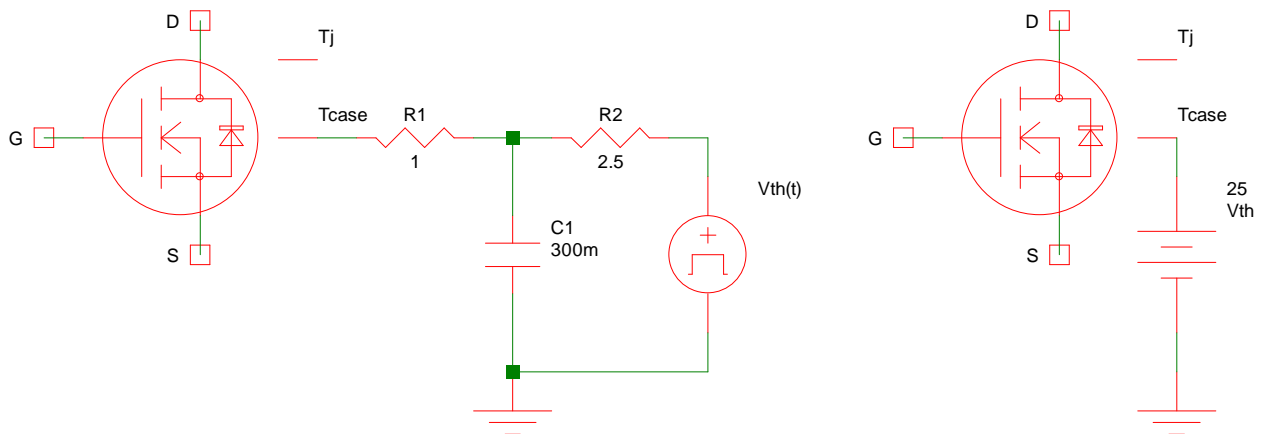

Figure 5: Connecting external thermal networks
- The second thermal pin is T_{case} (or, in die models, T_{pad}). This pin has to be connected. An external resistor-capacitor-network can be added between the T_{case} pin and ground potential. The right-hand side terminal of the thermal network has to be connected to a thermal source to define the ambient temperature. (see Figure 5). On the other hand, shorting these pins leads to a network where optimum heat transfer is modeled.
The Figure 5 depicts an example for simulation circuit with external heat sink. On the left picture R1 refers to the R_{th} of the interface between heat slug and heat sink. C1 and R2 are parameters from the used heat sink with its thermal capacitance (C1) and its R_{th} to the environment (R2). The V_{th} -signal describes the environment temperature behavior for the simulation.